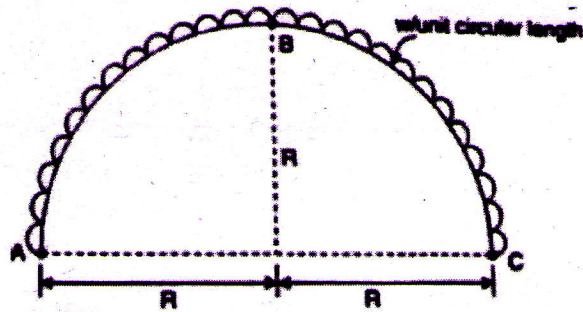

Fig.7
- 9 a) Define shape factor. Also derive the shape factor for a rectangular section with breadth 'b' and depth 'd'. (6)
- b) Define the following terms: (4)
- c) A beam shown in fig.7 is semi-circular in plan supported on three equally spaced supports. The beam carries a uniformly distributed vertical load of w /unit of the circular length. Analyse the beam and sketch the bending moment and twisting moment diagrams. (10)